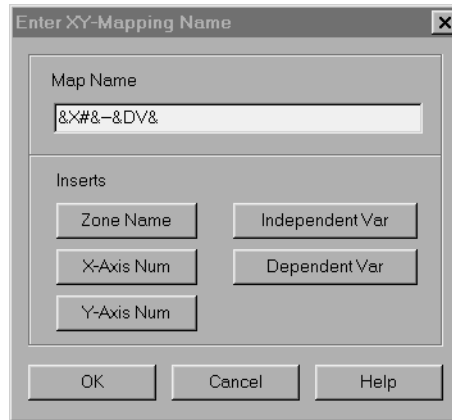

Figure 8-4. Assigning XY-mapping names.
3. Click Edit Name to call up the Enter XY-Mapping Name dialog, as shown in Figure 8-4.
For example, Figure 8-4 shows the Enter XY-Mapping Name dialog assigning an XY-mapping name consisting of the X-Axis Number, a dash (two hyphens), and the dependent variable name.